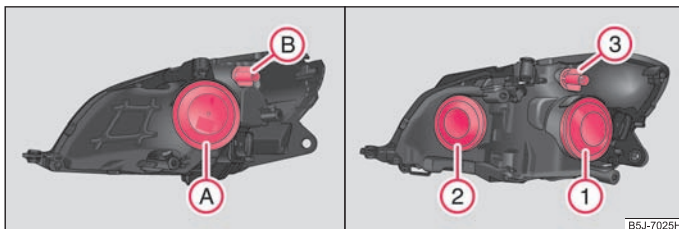

Fig. 167 Fitting position of the bulbs: Halogen headlights / halogen projector headlights
Positions of the light bulbs in the halogen headlights ⇒ fig. 167 on the left and in the halogen projector headlights ⇒ fig. 167 on the right.
- Remove the protective cap Ⓐ ⇒ fig. 167.
- Remove the protective cap ① ⇒ page 201, fig. 167 on the right.
- Remove the protective cap ② ⇒ page 201, fig. 167 on the right.
- Turn the socket ⑥ (halogen headlight) ⇒ page 201, fig. 167 or the socket ③ (halogen projector headlight) to the left and take it out together with the light bulb for the turn signal light.
- Remove the protective cap ① (halogen headlight) or ② (halogen projector headlight) ⇒ page 201, fig. 167.